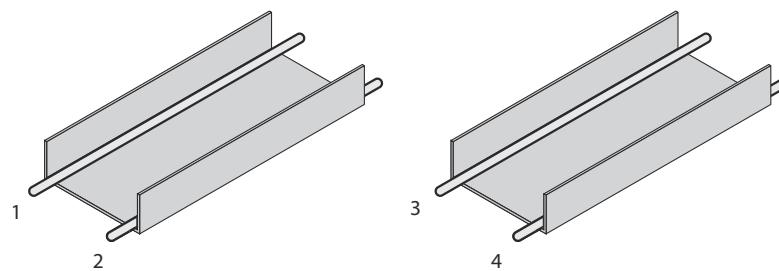

Figure 6: Ideal laying - Place cables in different cable channels
- ▶ Cables in groups 1, 2 and 3, 4 must be routed in different cable channels or metallic separators must be used, see figure 6 and see figure 7. This applies particularly where cables of devices with a high level of radiated emission, such as frequency converters, are laid parallel to sensor cables.